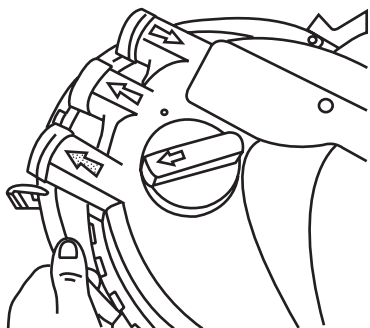

Fig 8
11. Replace the clamping ring. Line the cutouts in the clamping ring up with outlet, inlet and waste removal outlet and close the clamping ring. Fig 8